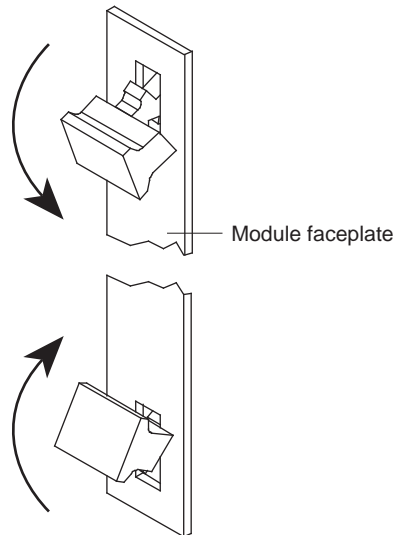

Figure 7 Handles in Inward (Inject) Position
- **If the system is powered on:** When the **Power/Unseat** LED on the module panel's faceplate is yellow, inject the EFSM into the chassis by grasping both ejector/injector handles and simultaneously pushing them inward. See Figure 7.
- **If the system is not powered on:** When you feel a slight resistance, inject the EFSM into the chassis by grasping both ejector/injector handles and simultaneously pushing them inward. See Figure 7.
NOTE: The panel shown in Figure 7 is a single-slot panel. Some modules occupy two slots.